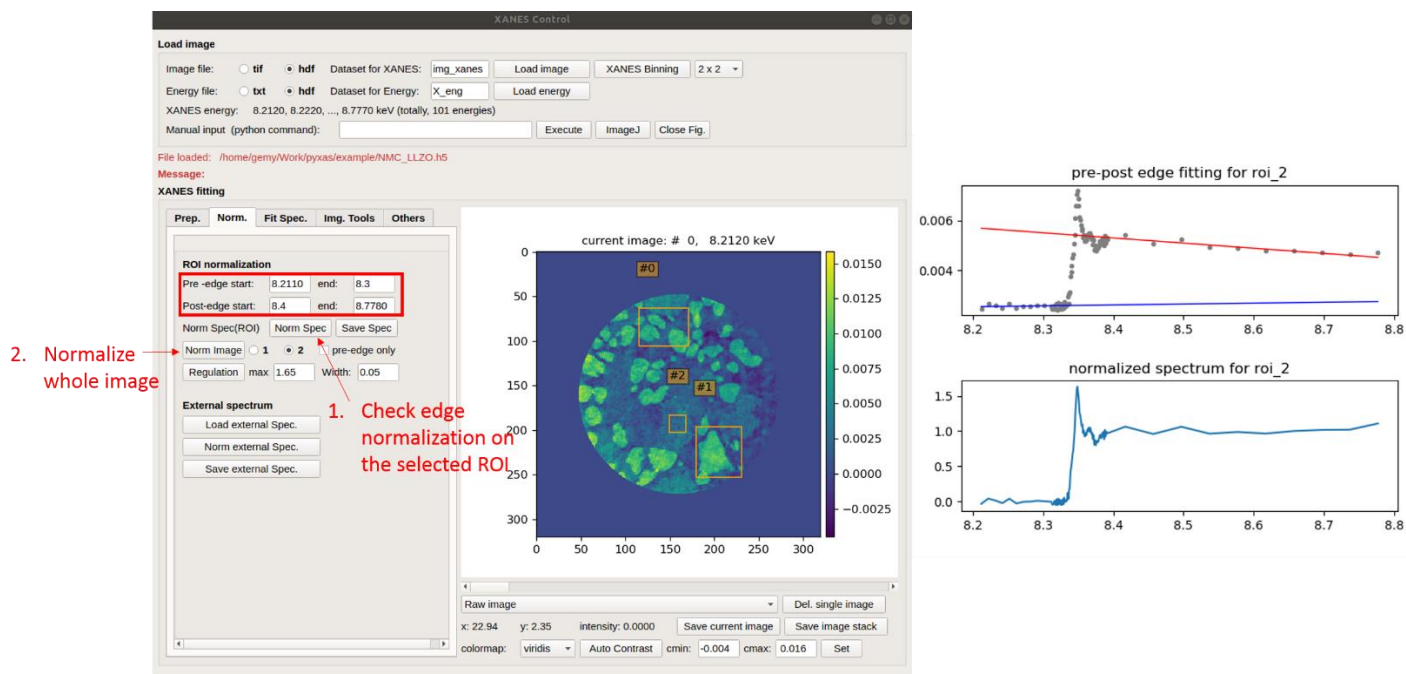

Fig. 3. Edge normalization on selected ROI (e.g., ROI2) and the whole image. Left: screen shot of package interface. Right: edge-normalization for ROI2
3. Under the “**Norm.**” tab, input the pre and post-edge energy range in the relevant fields: “Pre-edge start/end” and “post-edge start/end” (**Fig. 3**)
Note: if this is material that will be used as a reference material, click the “**Save Spec**” button to save the normalized spectrum for use as the reference spectrum required for the subsequent XANES fitting. (**Fig. 3**)
5. Once we are satisfied with the defined energy range of pre/post edge, we can perform the edge normalization for the whole image, simply by clicking “Norm Image” (**Fig. 3**)